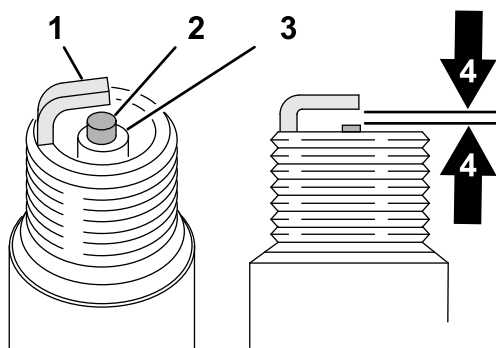

Figure 39
4. Adjust the air gap (Figure 39) between the center electrode and side electrode to 0.76 mm (0.030 inch).